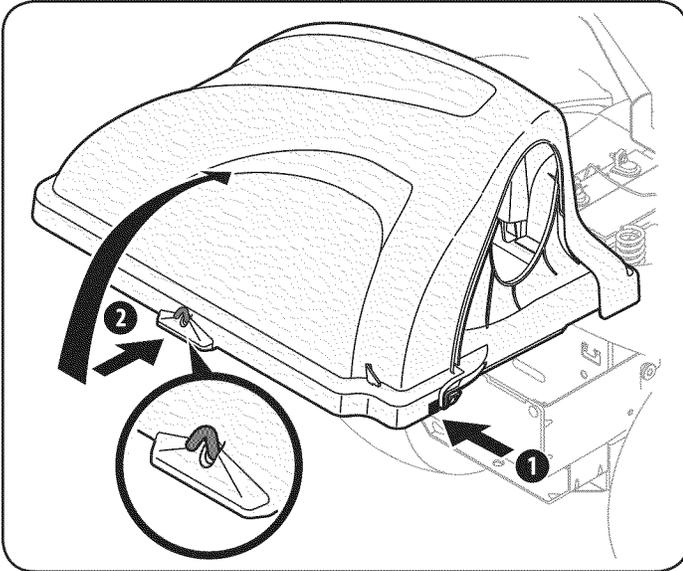

Figure 26
2. Open grass catcher cover by pushing in on the rear, right-side tab with your right-hand, as shown in (1) of Figure 26, and lifting with your left-hand in the rear center, (2).